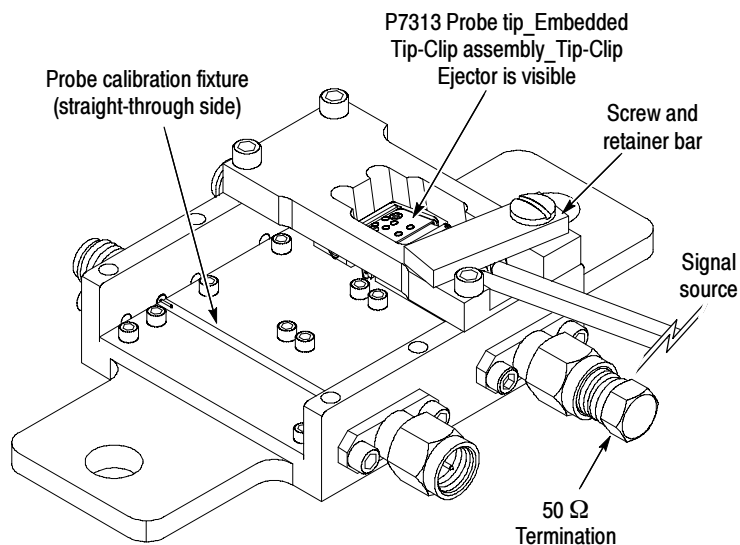

Figure 17: Probe calibration fixture and probe
1. Loosen the plastic screw and swing the retainer bar out of the way. See Figure 17 on page 34.
1. Loosen the plastic screw and swing the retainer bar out of the way. See Figure 17.
14. Connect the probe input to the probe calibration fixture as shown in Figure 17 on page 34. Check that the TDR function is still active.